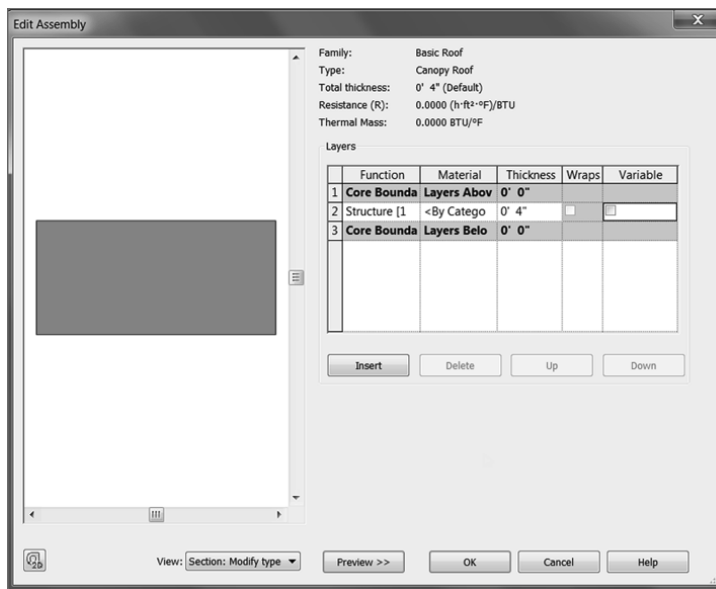

FIGURE 7.52: Changing the thickness of the canopy roof
12. In the Edit Assembly dialog box, change the structure thickness to 4" (100 mm), as shown in Figure 7.52.